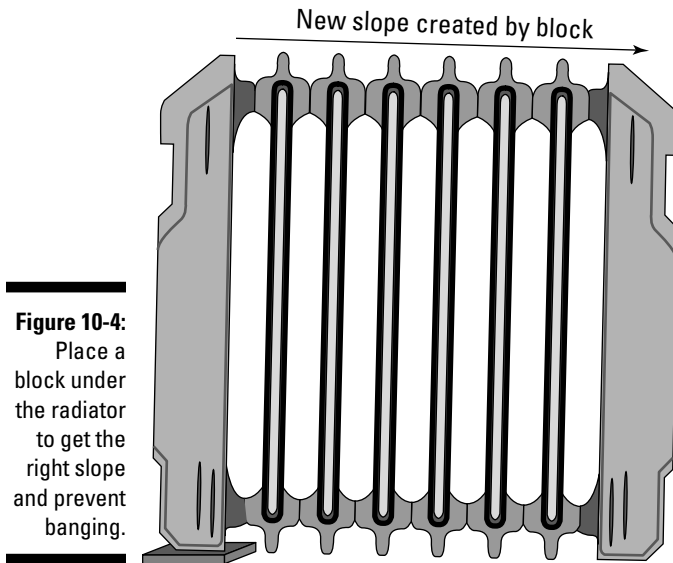

Figure 10-4:
- ✓ **Make sure that every radiator slopes slightly toward the steam inlet pipe (the one that comes out of the wall or floor).** If one doesn't, slip a little 1/4-inch-thick rectangle of wood under the feet at the vent end (as shown in Figure 10-4). This helps prevent those irritating knocking and clanging noises.